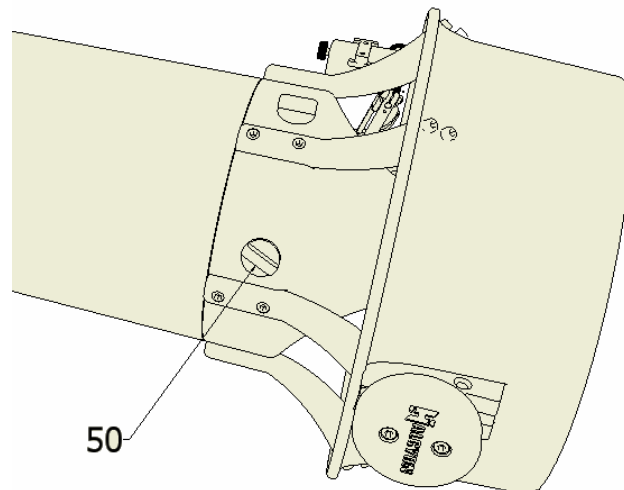

Figure 13
The BY PASS device is recognizable as a white knob (50) (see fig.13) located on the left side of the motor unit, exactly opposite the main switch, creates a direct electrical connection between the battery and electrical motor, by passing any other component usually used for electrical HDV use: trigger, speed regulator, electronic control.
NEVER ROTATE THE BY PASS KNOB (50) (see fig. 13) UNLESS ABSOLUTELY CERTAIN THAT YOU HAVE COMPLETE AND ABSOLUTE CONTROL OF THE HDV. ROTATING THE KNOB WITH THE SWITCH IN THE ON POSITION IMMEDIATELY STARTS THE HDV.
- Fully rotate the By Pass knob (50) (see fig. 13) clockwise without forcing.
- Rotate the main switch (6) clockwise. The HDV starts in continuous mode. If it does not start, the HDV is broken. Abandon or recover it.
- Rotate the main switch (6) counter-clockwise to stop the HDV.